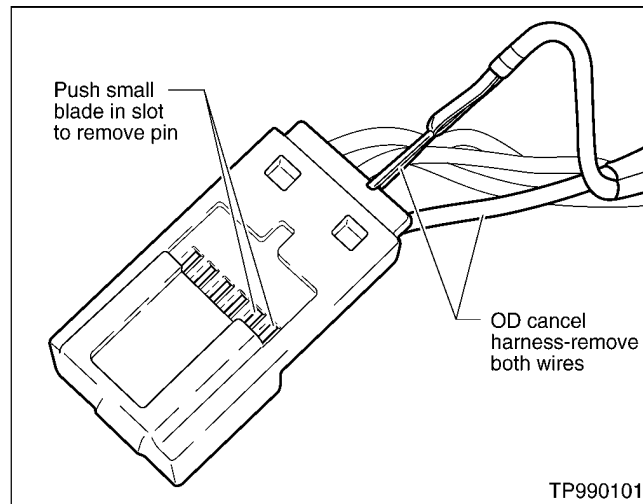

Figure 5
11. Remove the two terminal pins for the OD cancel switch from the connector (Figure 5).